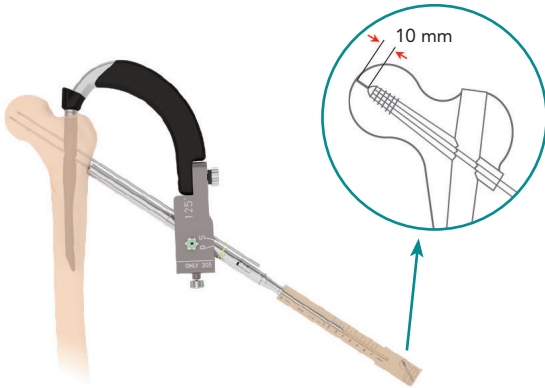

Figure 18
**NOTE.** The size marked on the measuring device corresponds to the length of the guide wire HSJ 0015 from its apex to the lateral cortex. If the cephalic guide wire HSJ 0015 has been correctly inserted up to the subchondral bone, the length of the cephalic screw is obtained removing 10 mm from the size measured on the graduated scale of the measuring device (e.g. 110 mm on the measuring device corresponds to a cephalic screw with length 100 mm) (Fig. 18).